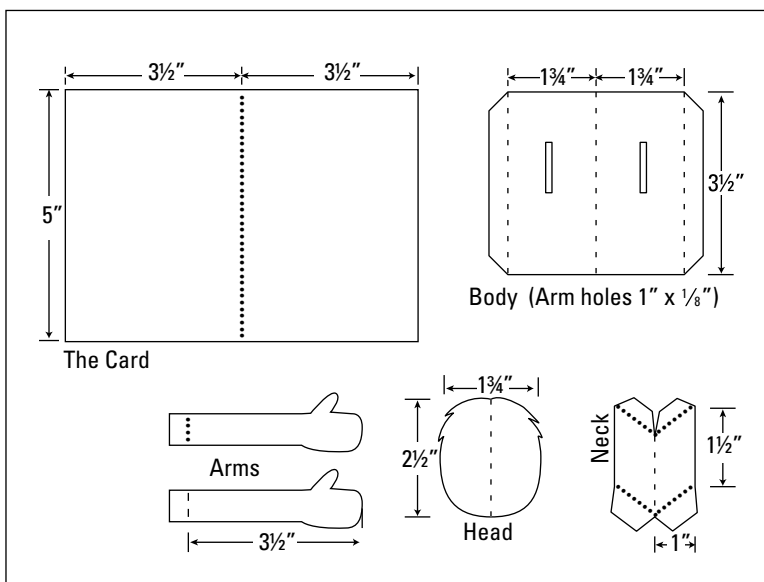

Figure 6-23
1. With a pencil and ruler, copy the templates from Figure 6-23 onto the white card.